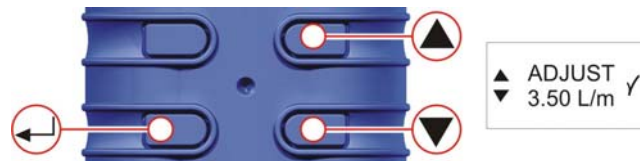

Figure 26 (High Set) Adjust Screen
L. CALIBRATION OF HIGH SET POINT (Fig. 26)